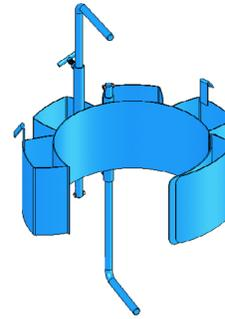

Figure 2.1
- A smaller diameter drum can be handled with the correct size 55/30 Series Diameter Adaptor (see figure 2.1) installed (see Diameter Adaptor literature).